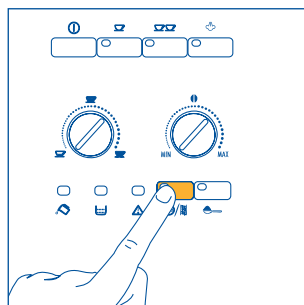

Fig. 14
1) If, when the machine has just been turned on, a short cup of coffee is required (less than 60cc), use the hot rinsing water to pre-heat the cups (see the suggestion in par. 4.3, point 5). 1) If, when the machine has just been turned on, a short cup of coffee is required (less than 60cc), use the hot rinsing water to pre-heat the cups (see the suggestion in par. 4.3, point 5). If, on the other hand, more than 2/3 minutes have elapsed since the last coffee was made, before preparing **another coffee the infuser must be pre-heated, pressing the ☕ ☕ button (Fig. 14).**